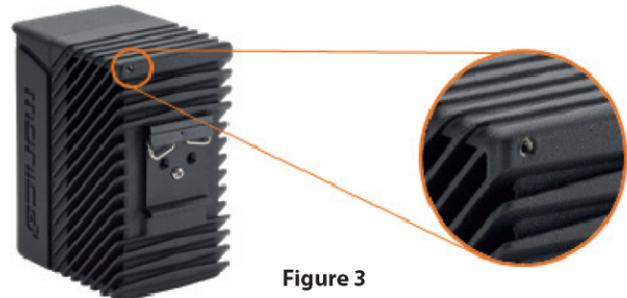

Figure 3
- Step 2: Connect the Grounding Wire to the mCore™ SDR Grounding Lug connection point, shown below in Figure 3.